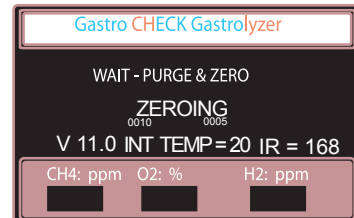

fig.14
5. The monitor will commence a zero and purge sequence and will issue a beep sound when the sequence is completed. (fig. 14)